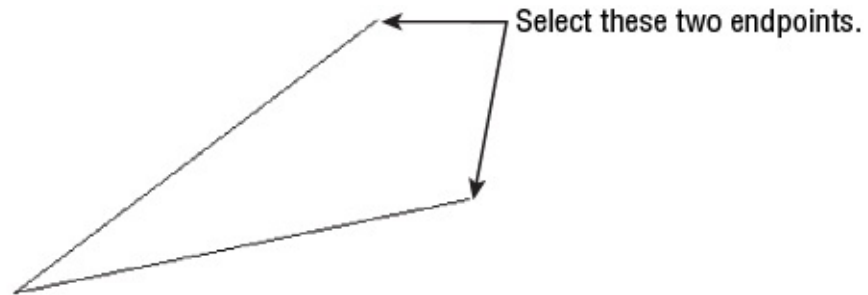

FIGURE 14.29 The endpoints of the two lines
3. Select the endpoints of the two lines, as shown in Figure 14.29.